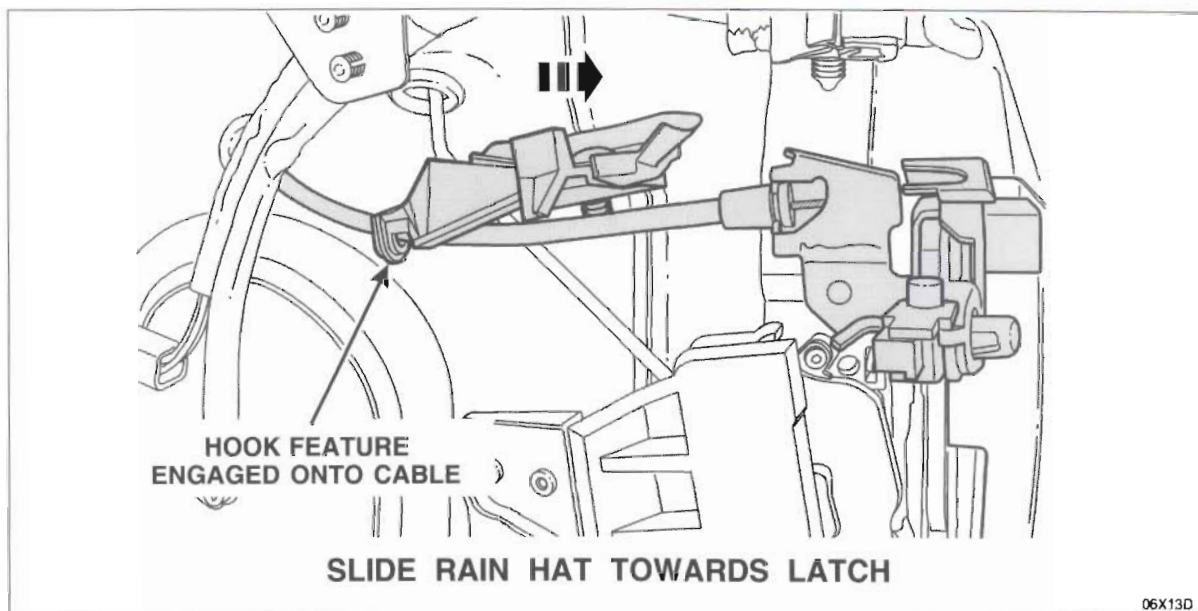

FIGURE 4
- b) Lay the rain hat down onto the latch cable and slide the rain hat into position over the latch with the gasketed edges of the rain hat against the door sheet metal. See Figures 4 and 5.